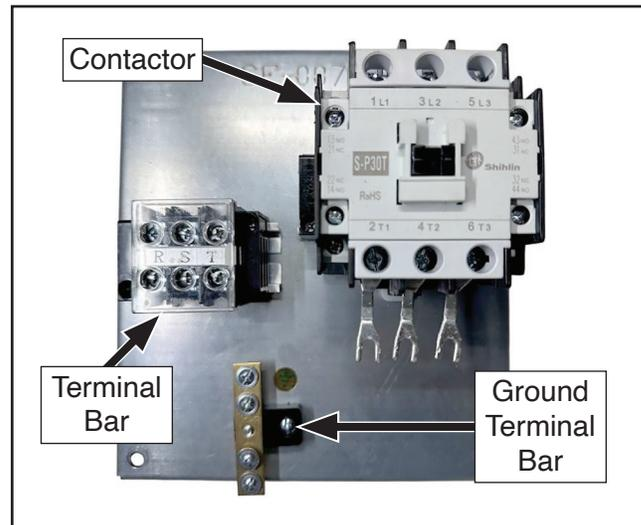

Figure 12. Components to remove from electrical mounting board.
- Remove contactor, terminal bar, and ground terminal bar from electrical mounting board and set aside (see **Figure 12**).